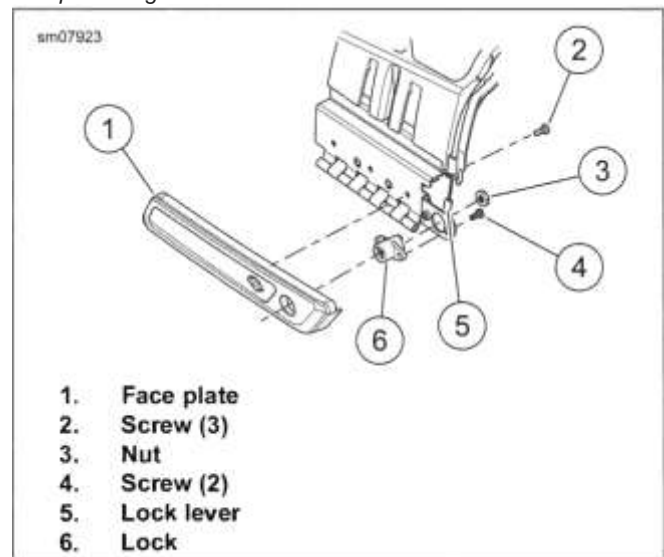

Figure 3-192. Saddlebag Lock
1. See Figure 3-192. Hold face plate (1) while removing screws (2). Remove face plate.
2. Remove nut (3). Remove lock lever (5).
3. Remove two screws (4).
4. Remove lock (6).
1. See Figure 3-192. Install lock assembly with tab nearest to cover.
2. Secure with two screws (4). Tighten.